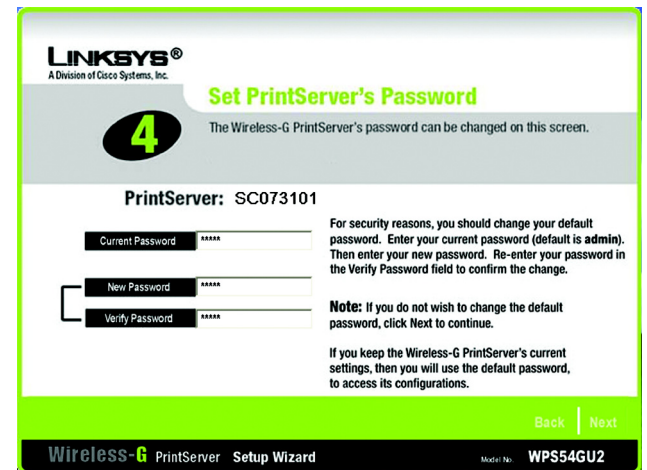

Figure 4-6: Set PrintServer's Password
- The *Set PrintServer's Password* screen, shown in Figure 4-6 will appear. If you want to change your password, enter your current password in the *Current Password* field. Enter the new password in the *New Password* field, then enter it again in the *Verify Password* field. Click **Next**.